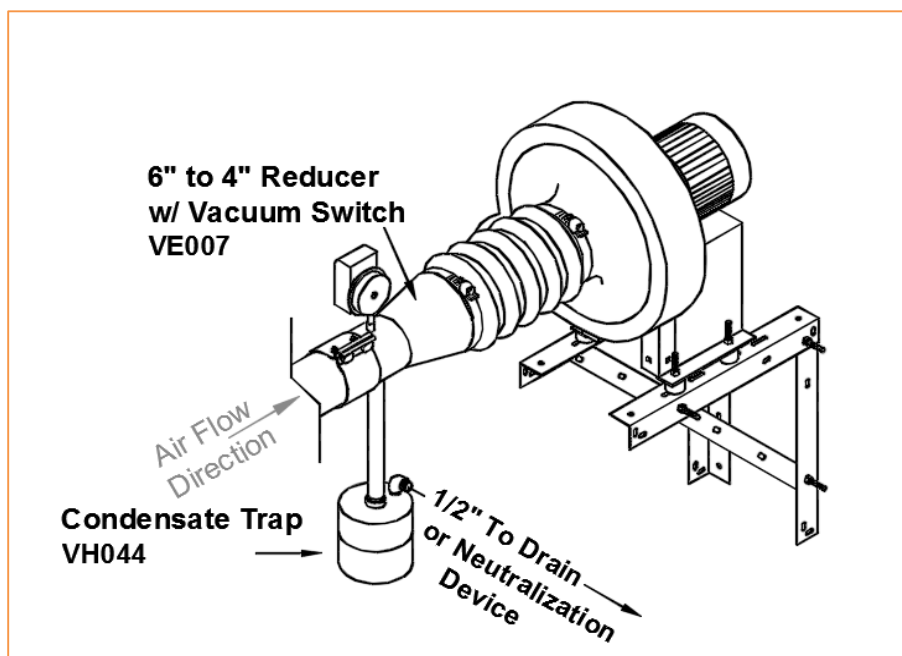

Figure 37: Condensate Drain Detail – Optional
4. Where condensing designs are specified, a Condensate Drain may be installed as shown in Figure 37. Ensure connection to Drain Pipe is flexible to allow for system movement / expansion during operation, and that an appropriate Neutralization Device is installed as required.